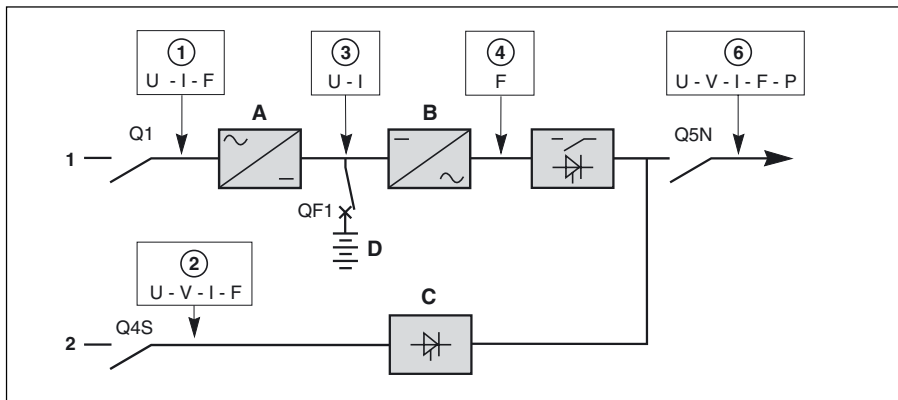

Fig. 23
The display (23) may be used to read a number of input and output measurements made at different points in the system. See, in the Appendix, figure 23.